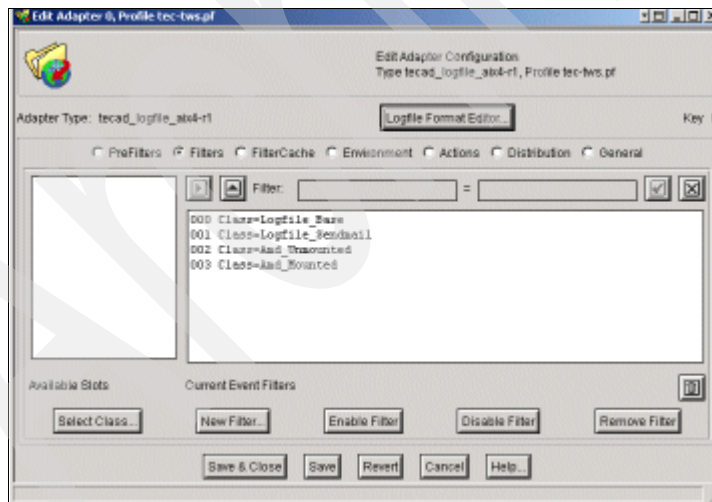

Figure 8-38 Edit Adapter window
17. Click **Select & Close**. The Edit Adapter window displays as shown in Figure 8-38.